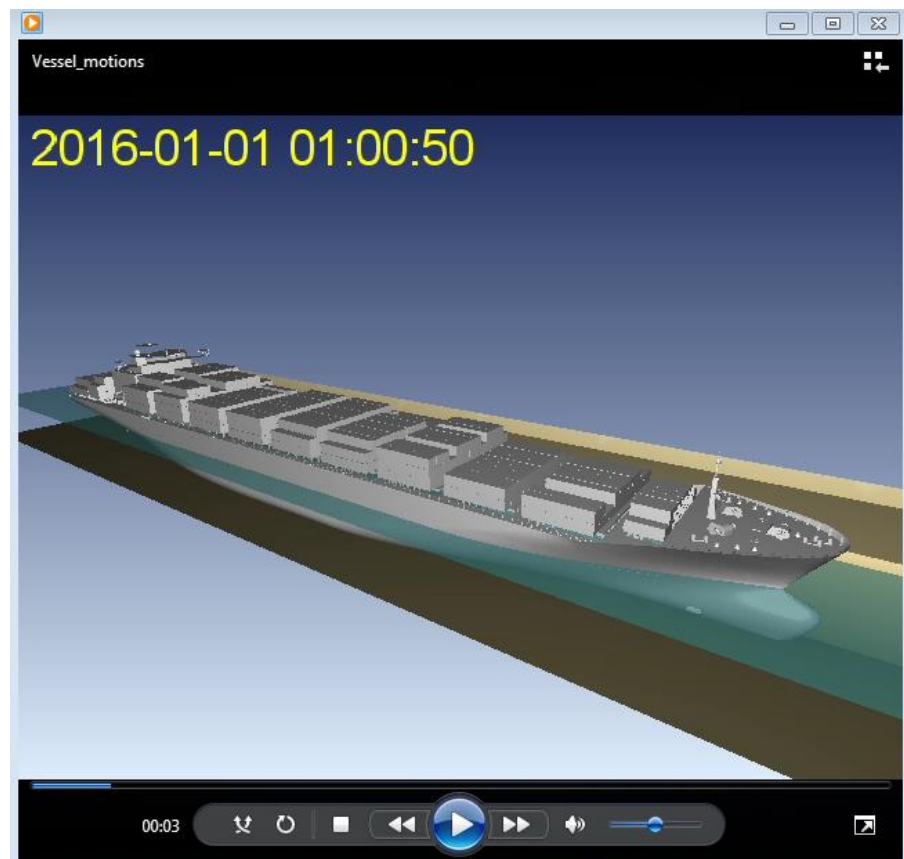

Figure 2-42 Recorded animation as shown in Windows Media Player
16. The resulting animation file **Vessel\_Motions.avi** can now be shown in e.g. Windows Media Player as shown in Figure 2-42.